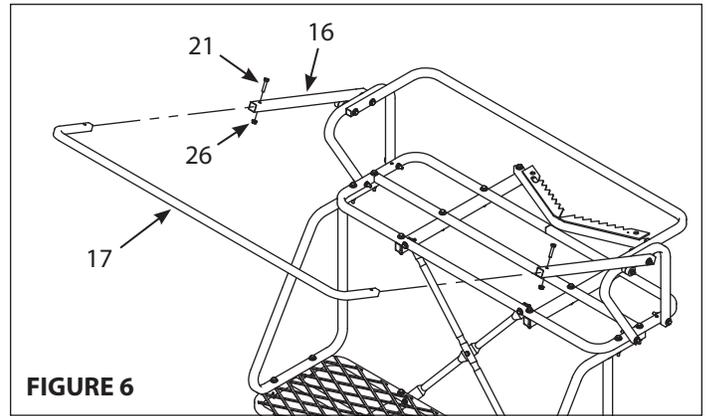

FIGURE 6
9. Insert the shooting rail (17) into the shooting rail extensions (16) and secure together using two 1/4-20 x 1-1/4" bolts (21) and locknuts (26). **SEE FIGURE 6.**